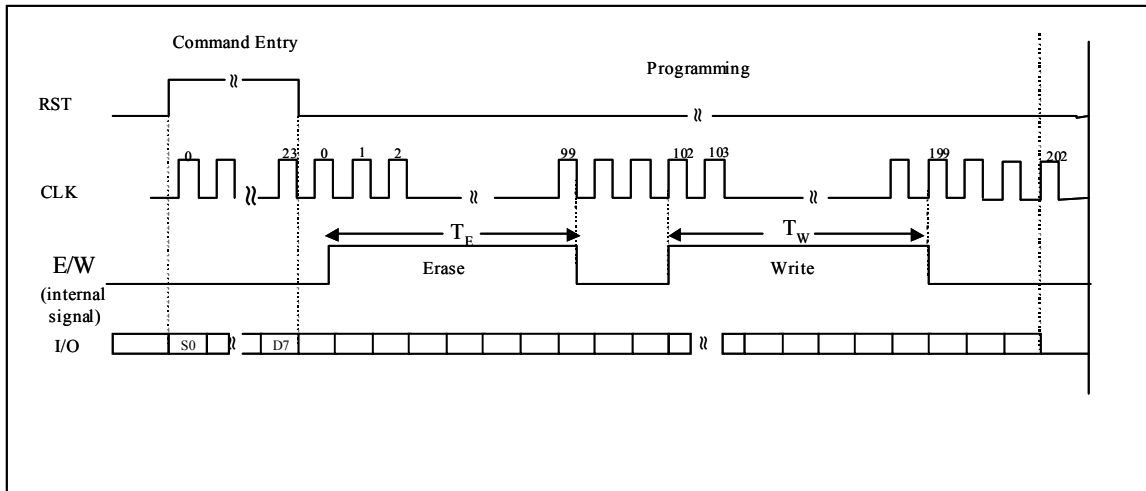

Figure 8: Programming Erase and Write
1. Erase and subsequent write if 203 clock pulses at $f < 20\text{KHz}$ are applied. (See Figure 8).
The Write/Erase data byte with protect bit command operates similarly to the write/erase data byte with protect bit command except that it also writes 0 to the corresponding protect bit. After the protect bit is set to 0 (write protection enabled), it cannot be changed again. (See Figure. 8 and 9).